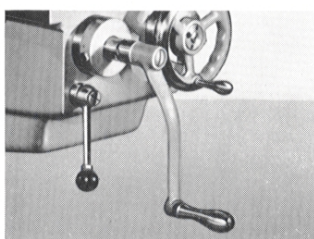

Figure 18A
**Manual Vertical Feed** — Figure 18A shows the crank for moving and adjusting knee up or down. One full turn of the crank clockwise will raise the knee  $.200$  of an inch. The micrometer dial is graduated into 100 equal spaces, representing  $.001$ " movement of the knee for each space.